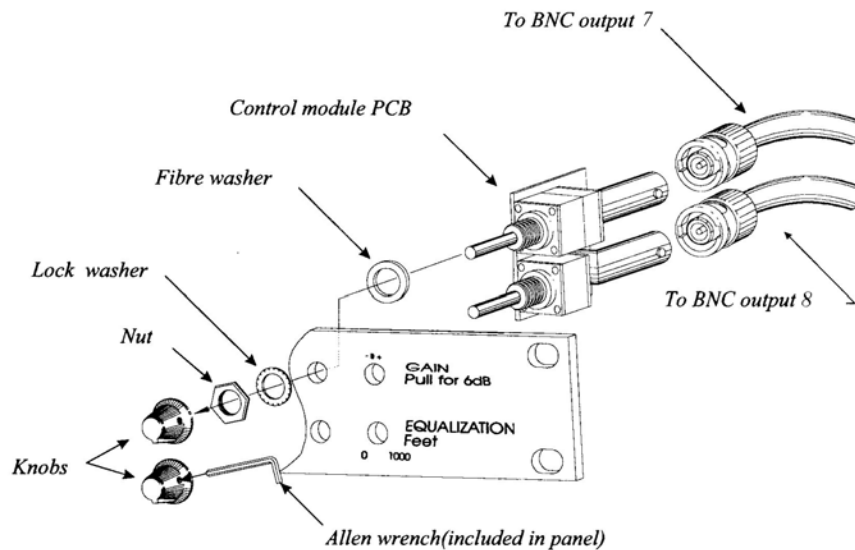

Figure 4. Installing the Control Module
2. Position the control module PCB in the panel ensuring that the "GAIN" potentiometer shaft is inserted in a hole along the "GAIN" row of holes. See Figure 4.
6. Connect the coax cable that is connected to the DA rack frame BNC output 8 to the Gain (upper) BNC output of the module. See Figure 4 and 7.
7. Connect the coax cable that is connected to the DA rack frame BNC output 7 to the Equalization (lower) BNC output of the module. See Figure 4 and 7.